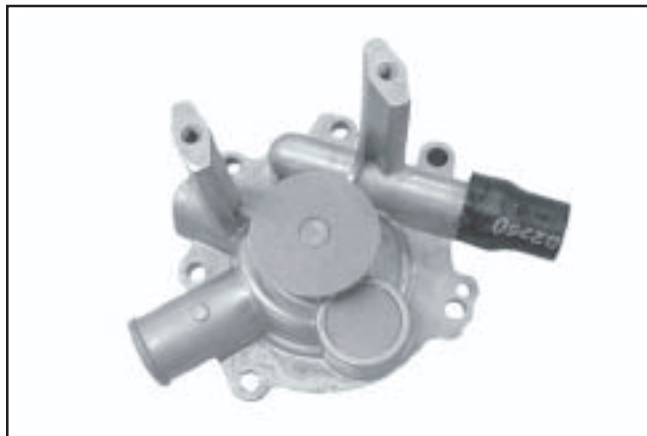

Figure 11-47. Assembling Hose to Water Pump.
5. Apply rubber lubricant to the inner surfaces of the short hose section. Assemble the hose to the outlet of the water pump and secure with the larger diameter clamp. Orient the clamp so the tangs extend out in the 3 to 4 o'clock position. See Figure 11-47.